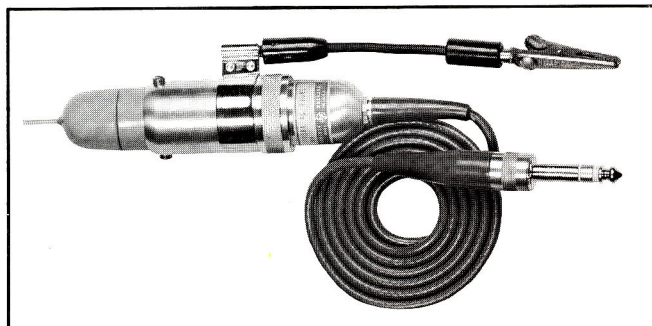

Figure 1. 11036A AC Probe
3. The Model 11036A is shown in Figure 1 and the specifications are listed in Table 1.